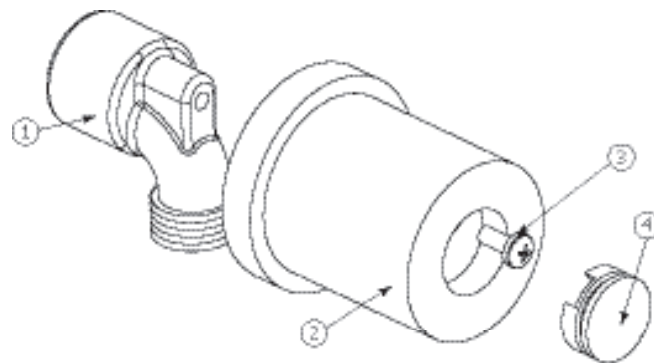

Fig.2
The waterway is sold pre-assembled. Remove the decorative cap (4) and the setscrew (3). Pull out the brass elbow (1) from the cover (2). (See Fig.2).
Retirer le coude de laiton (1) de la garniture (2). (Voir Fig.2).